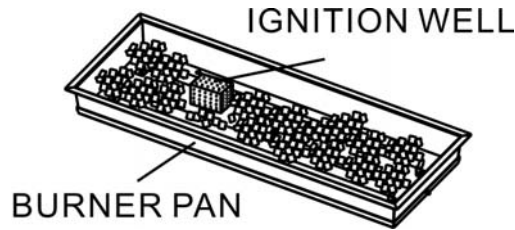

Figure 8
7. Pour ALL of the media (fire ice or lava rock) into the burner pan. The burner MUST be completely covered to ensure the appliance functions properly and safely. Remove any lava rocks or fire ice on top of the ignition well. See figure 8.